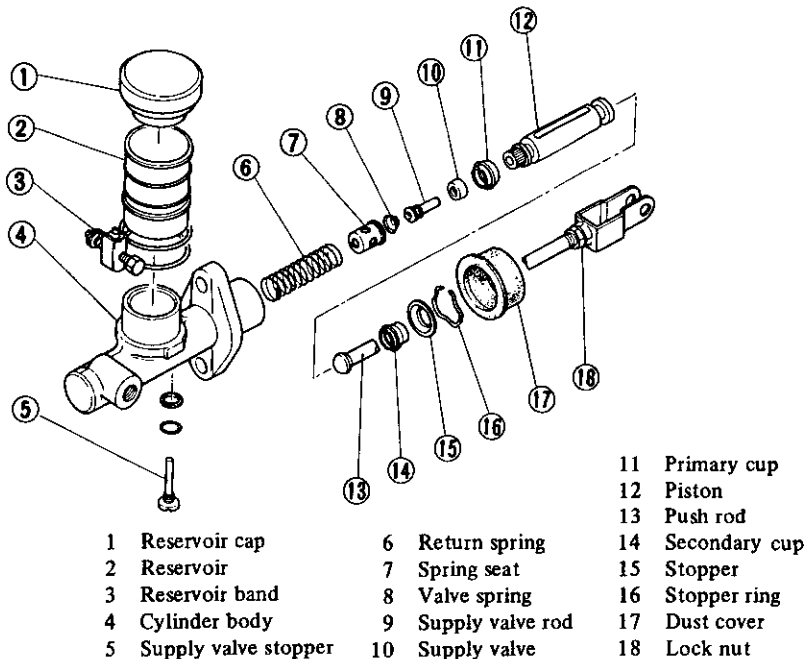

Fig. CL-19 Exploded view of master cylinder
4. Remove spring seat from piston and take off supply valve if necessary. See Figure CL-19.